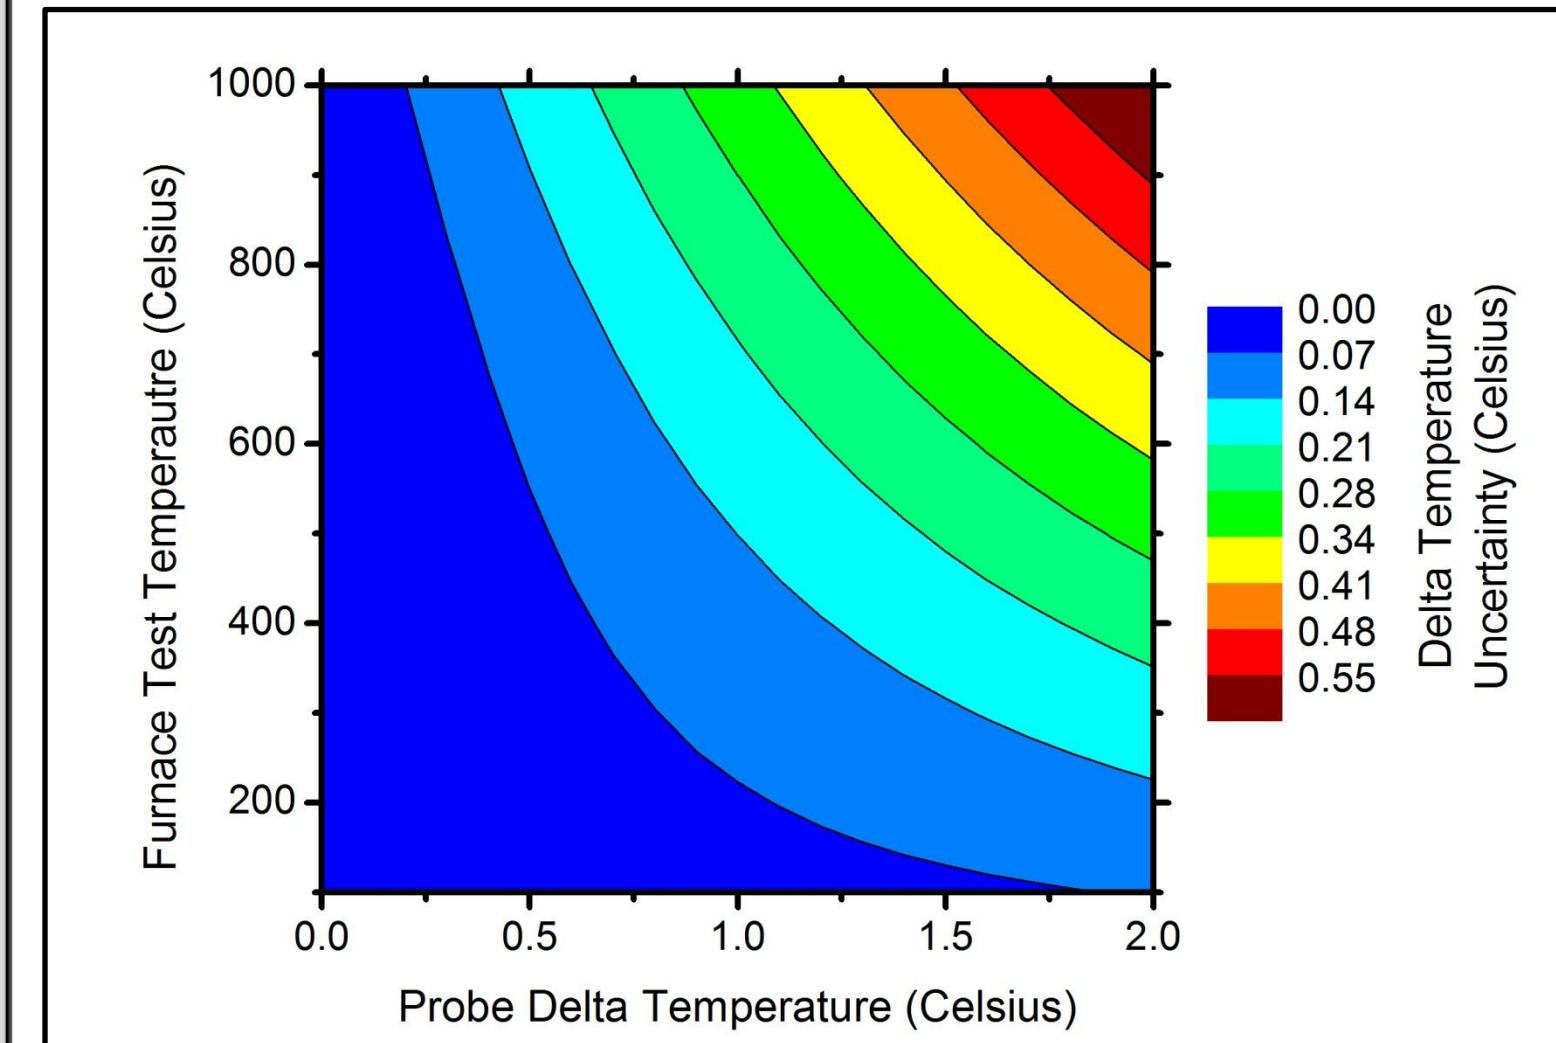

Fig. 5- Result of FEA study for a range of test delta temperatures and furnace temperatures.
- Thermal FEA shows the magnitude of the effect on the temperature differences (Fig. 5).